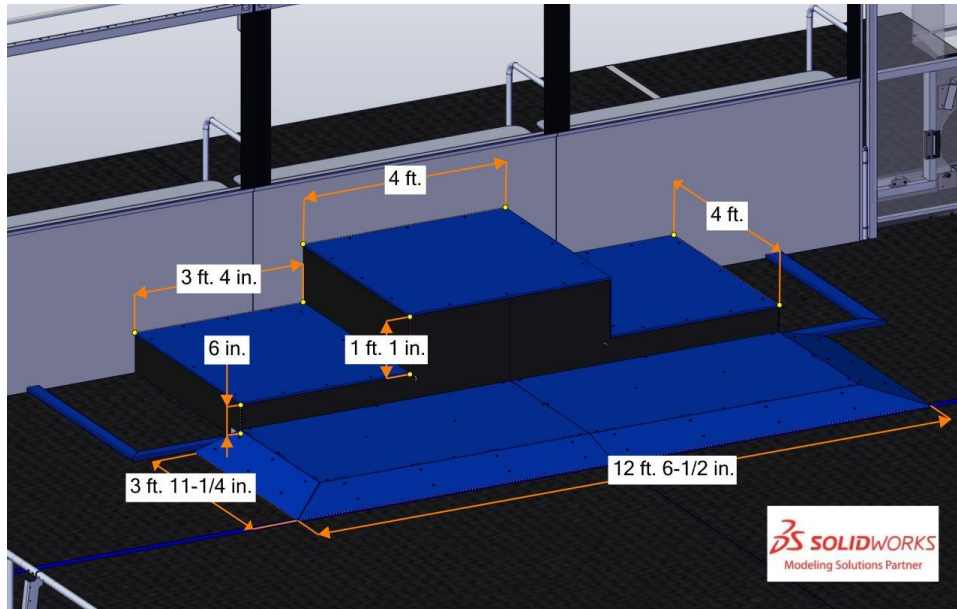

Figure 4-21 Blue HAB PLATFORM with major dimensions.
The HAB PLATFORM consists of a ramp, four (4) decks at three levels, the ALLIANCE colored tape that traces the intersection of the ramp and the carpet, and all relevant supporting structure. Major HAB PLATFORM dimensions are as shown in Figure 4-21.